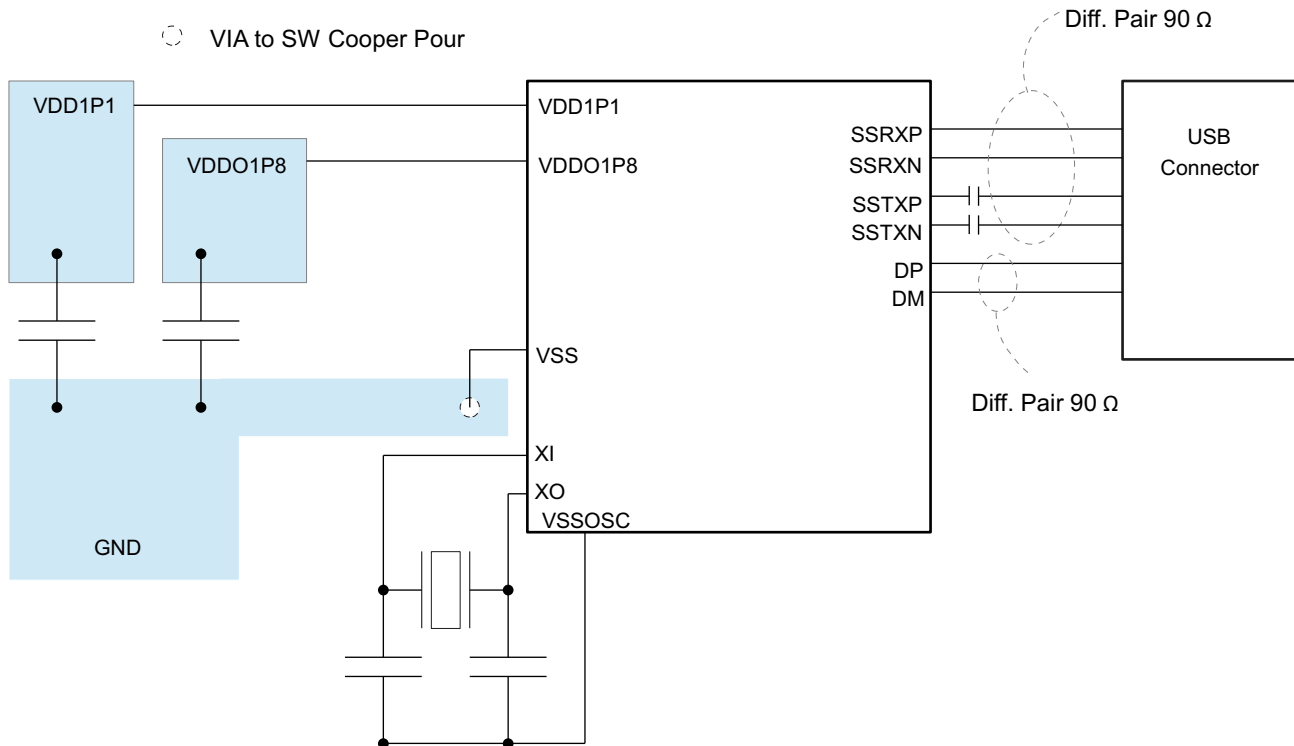

Figure 6-7. Layout Example
10. In Figure 6-7 the red pads are USB_SS_RXP/USB_SS_RXN and the blue pads are USB_SS_TXP/USB_SS_TXN.